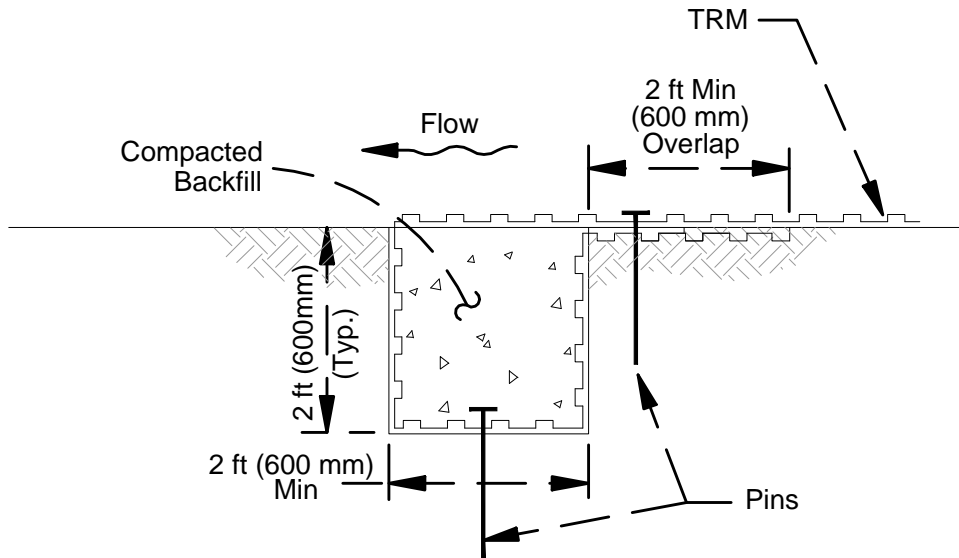

FIGURE 2: INITIAL TRENCH (DOWNSTREAM) DETAIL
- Excavate an initial trench 24 in wide x 24 in deep (600 x 600 mm) minimum across the channel at downstream end of project (see Figure 2). Deeper initial trench and/or hard armoring may be required in channels that have the potential for scour.
- Beginning at the centerline of the channel, place roll end into the initial trench (with 24 in (600 mm) minimum lap) and secure with pinning devices on 12 in (300 mm) centers (see Figure 2). Position adjacent rolls and secure in trench in same manner. Backfill and compact soil into trench as directed and approved by Engineer.
- Secure initial trench lap with pinning devices on 12 in (300 mm) centers (see Figure 2).